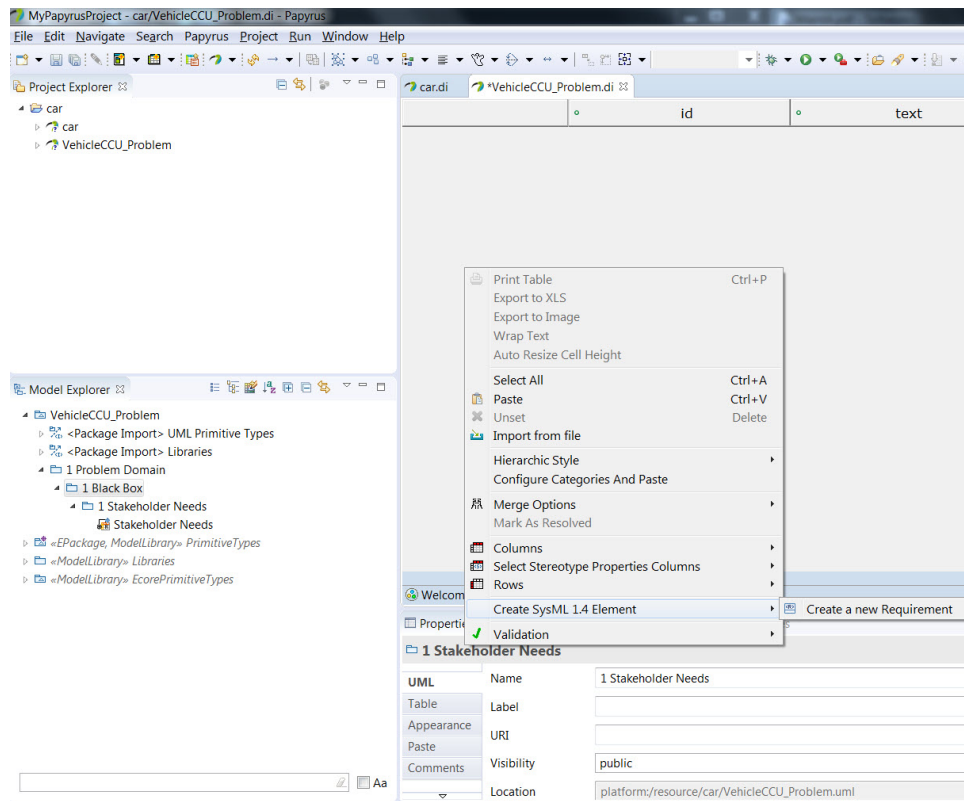
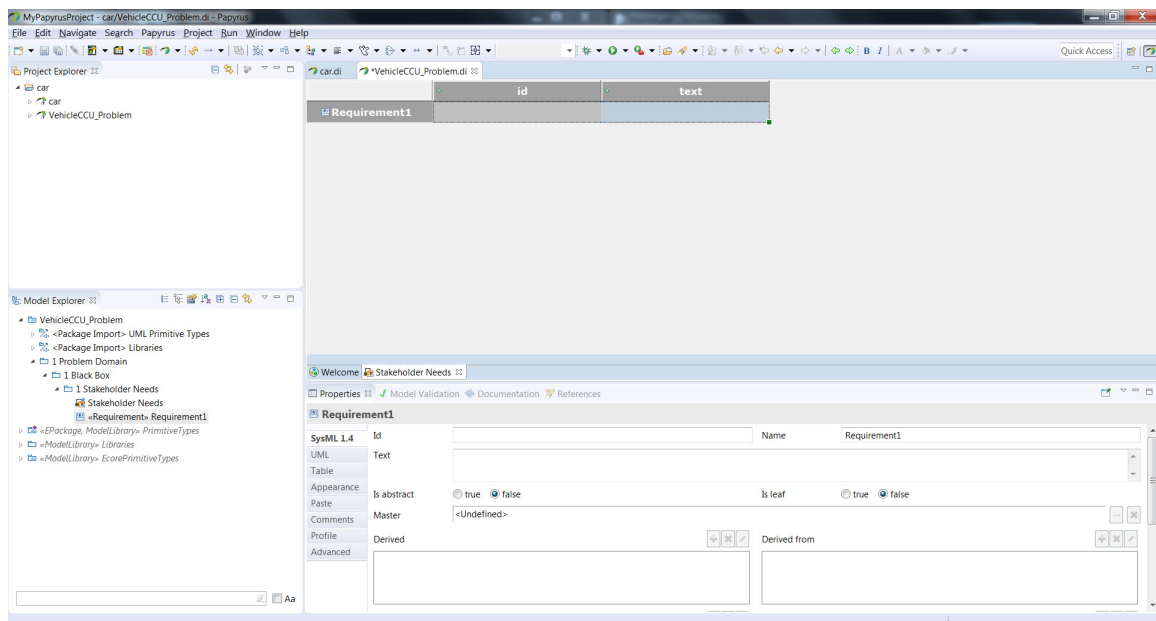

Figure 11: Create New Requirement in Requirement Table
Figure 12: New Requirement in Model
4. First Left-click anywhere in the blank space in the main table window and then Right-click and select **Create SysML 1.4 Element > Create New Requirement** (see figure 11). A new requirement should appear in the table view and a requirement model element should appear underneath the *Stakeholder Needs* table element in the *Model Explorer* window (figure 12).
in the *Properties Window* in the *SysML 1.4* tab. We are going to use the *SysML 1.4* tab at the bottom of the main screen . To do this Left-click on *Requirement 1* under the *Stakeholder Needs* table element in the *Model Explorer* then select the *SysML 1.4* tab in the *Properties window* (figure 12). You can see the properties in this tab for *Id*, *Name*, and *Text*.